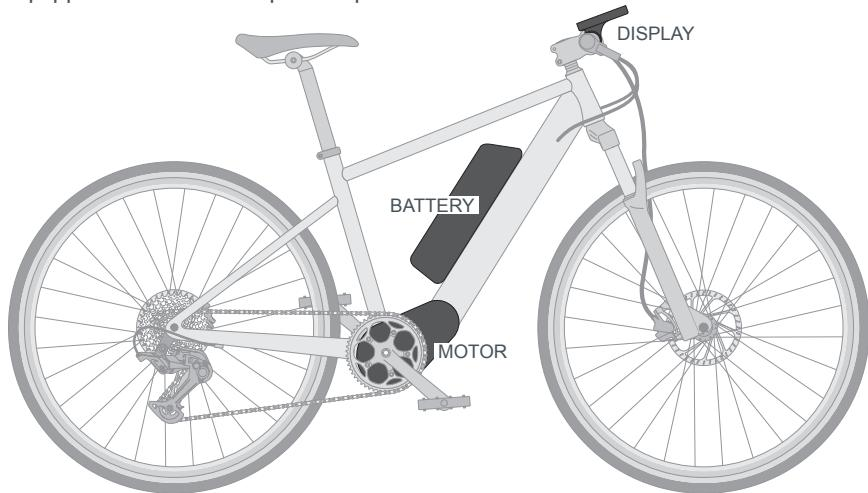
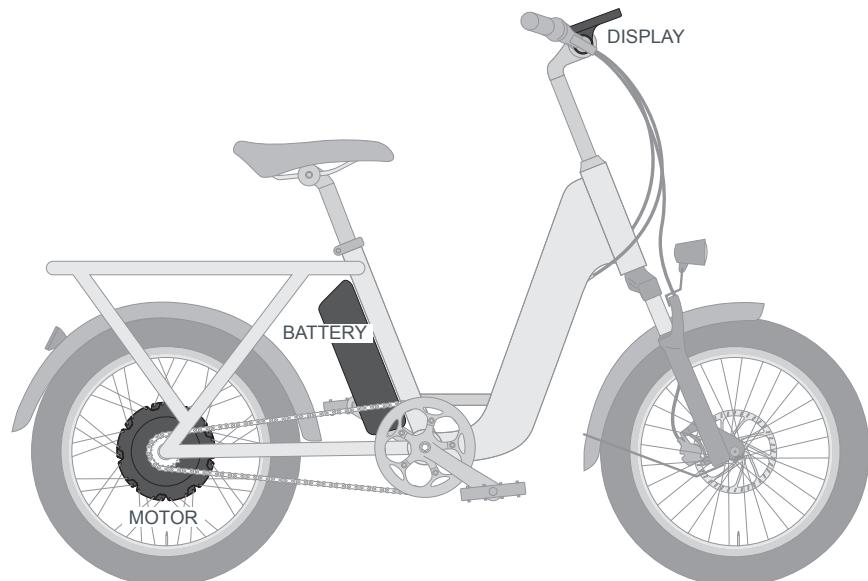

fig. 1
fig. 2
While some e-bikes have step-through frames (see fig. 2) that may allow a child to mount an e-bike, that does not mean the e-bike is the right size for them to operate safely. An e-bike that is too big for a child may lead to a loss of control and fall, resulting in serious personal injury or death.
- **Display(s):** Provide the rider with relevant information about the ride, such as speed, distance, power output, and battery charge (**fig. 1**).
- **Class 1:** Bicycle equipped with a motor that provides assistance only when the rider is pedaling, and that ceases to provide assistance when the electric bicycle reaches 20 mph (fig. 1).
- **Class 2:** Bicycle equipped with a throttle-actuated motor, that ceases to provide assistance when the electric bicycle reaches 20 mph (fig. 2).
NOTE: This Manual is only for e-bikes that are manufactured as complete e-bikes and designed to apply power through the rear wheel, with either a "mid-drive" motor (**fig. 1**) or motor contained in the rear hub (**fig. 2**). This Manual does not cover other types of e-bikes, including front-wheel drive, conversion kits, or "add-on" electric motors of any kind.